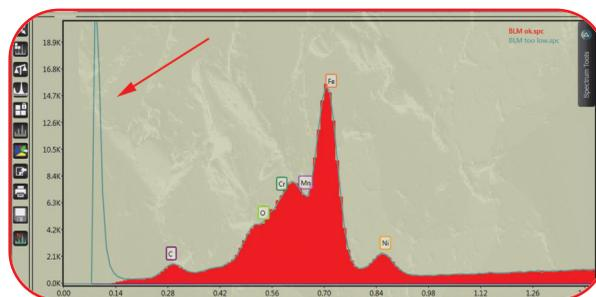

Figure 4. BLM set incorrectly (cyan) and set correctly (red).
Figure 4 shows the BLM set incorrectly (at 18, in cyan) and the BLM being set correctly (at 23, in red). Note that the BLM is different for every amp time.
The distribution of copper was interesting because it did not show a smooth uniform distribution throughout the wood. Instead, Cu (K) “hot spots” were clearly evident, along with streaking normal to the rings of the wood. The hot spots tended to form right before (to the left) of the next tree ring, which is best shown in the total counts map in Figure 4.
Figure 4. The total counts map does not separate maps by energy, but instead represents the total count rate at any given point. This clearly shows that the copper hot spots do not directly correlate with the tree rings.